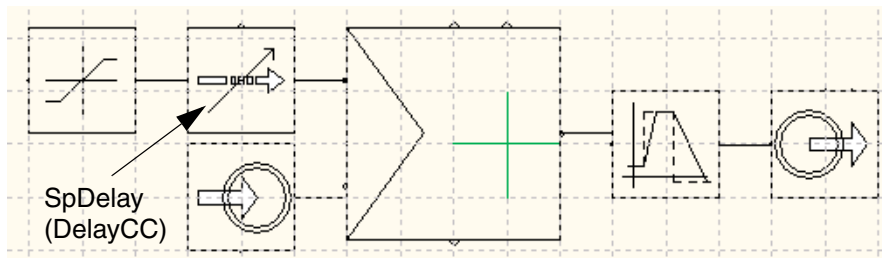

Figure 94. The result in of the new control solution in CMD editor
- 10. Create an instance of DelayCC type (ControlExtendedLib) with instance name SpDelay and add it between the SpLim and Pid control modules. Make sure that the graphical connections are correct. See Figure 94.